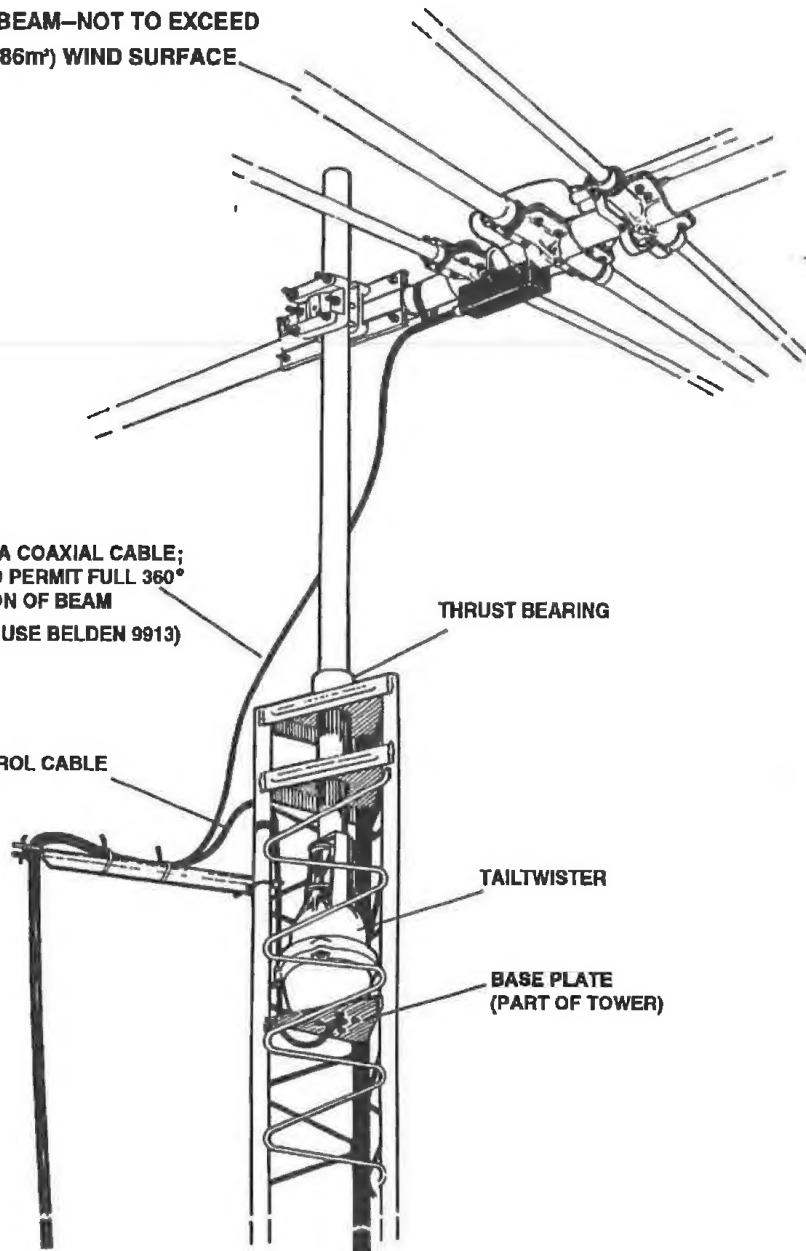
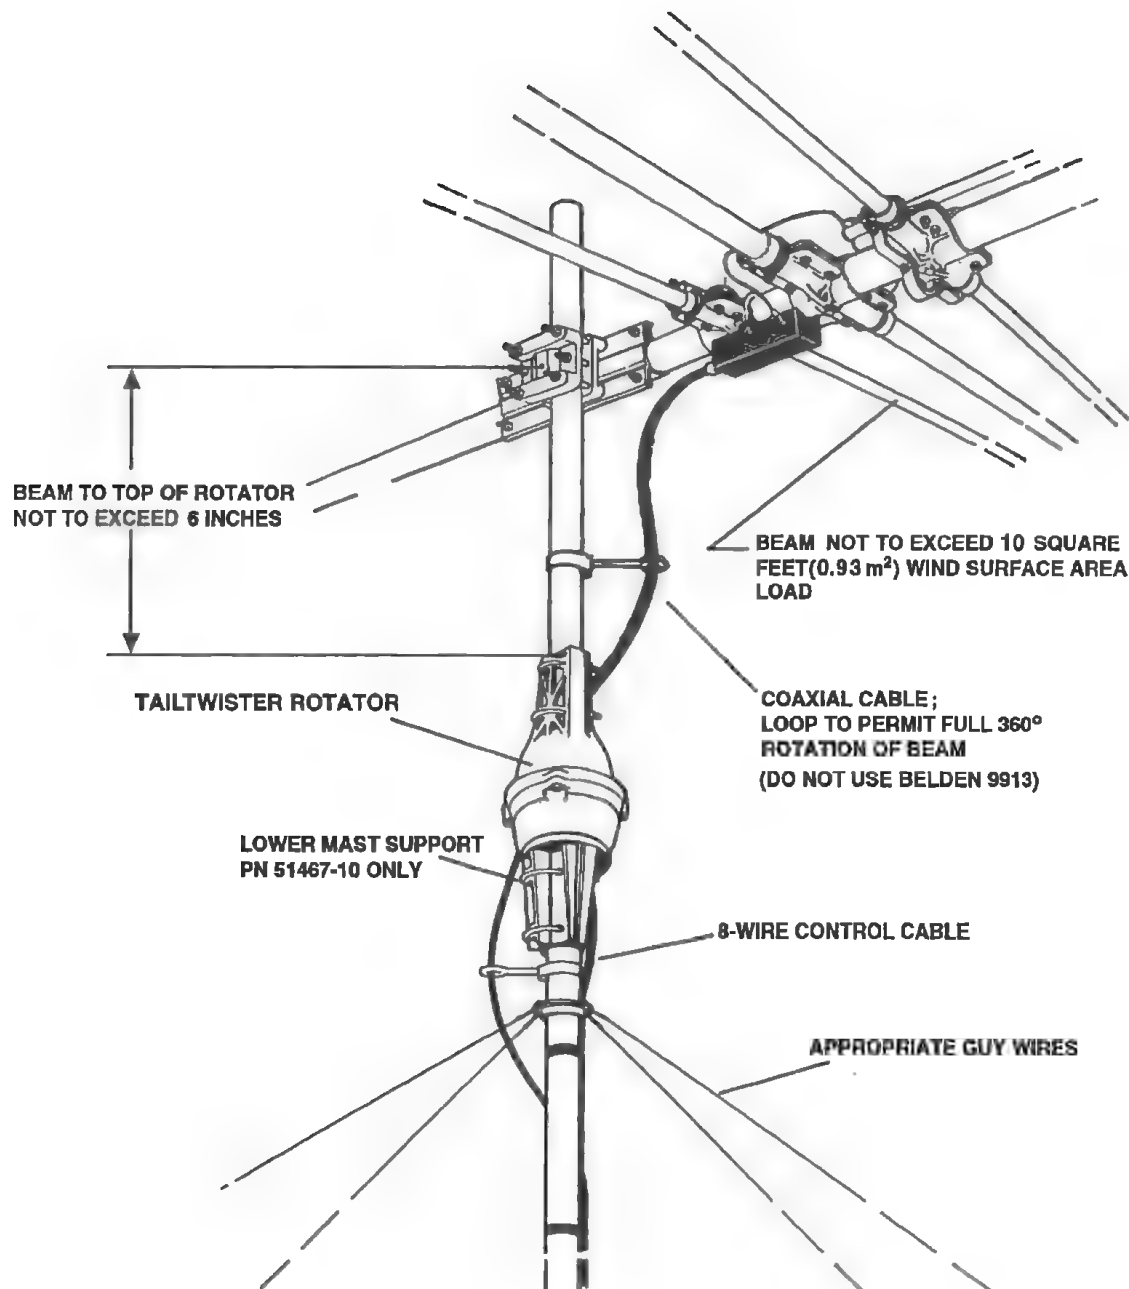

Figure 3
Figure 5
The optional heavy-duty lower mast support kit must be used if you elect to use a mast mount (see Figures 5 and 9). The part number for this kit is 5146710. When using the lower mast support, the antenna size is restricted to 10 square feet of wind area. The "inside tower mount" configuration is recommended (see Figure 3).
There are three general types of rotator installations (see Figures 3, 4, and 5).
The rotator is mounted inside a tower, see Figure 3 and 8, to the flat tower plate by means of six (6) bolts furnished in the hardware kit. Use the following procedure:
2. Attach the rotator to the tower plate by means of six (6) bolts and lockwashers (see Figures 3 and 8). The flat tower plate must be drilled in six (6) places using the template provided with this manual unless the tower plate is already properly drilled. Tighten the six (6) bolts.
The rotator is mounted to a vertical mast, see Figures 5 and 9, by means of four (4) bolts and the optional lower mast support, P/N 5146710. Use the following procedure:
1. Attach the rotator to the lower mast support by means of four (4) bolts, nuts and lockwashers. Tighten the four (4) bolts. Attach this assembly to the top of the mast as shown in Figure 5. Tighten all bolts securely.